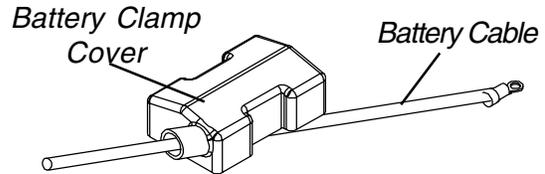

**FIGURE 4 - CONNECTING BATTERY CABLES - BATTERY CLAMP METHOD**
- C. **FOR DUAL 22NF BATTERIES THAT DO NOT HAVE MOUNTING HOLES IN THE BATTERY TERMINAL(S)/POST(S)** - Use battery clamp method. Refer to FIGURES 4, 5 AND 6.
**Battery Clamp Method (FIGURES 4, 5 and 6).**
- B. If the battery clamp on the POSITIVE (+) battery terminal/post is positioned as shown in FIGURE 4, proceed to STEP 2.
- Reposition the battery clamp on the POSITIVE (+) battery terminal/post as shown in FIGURE 4.